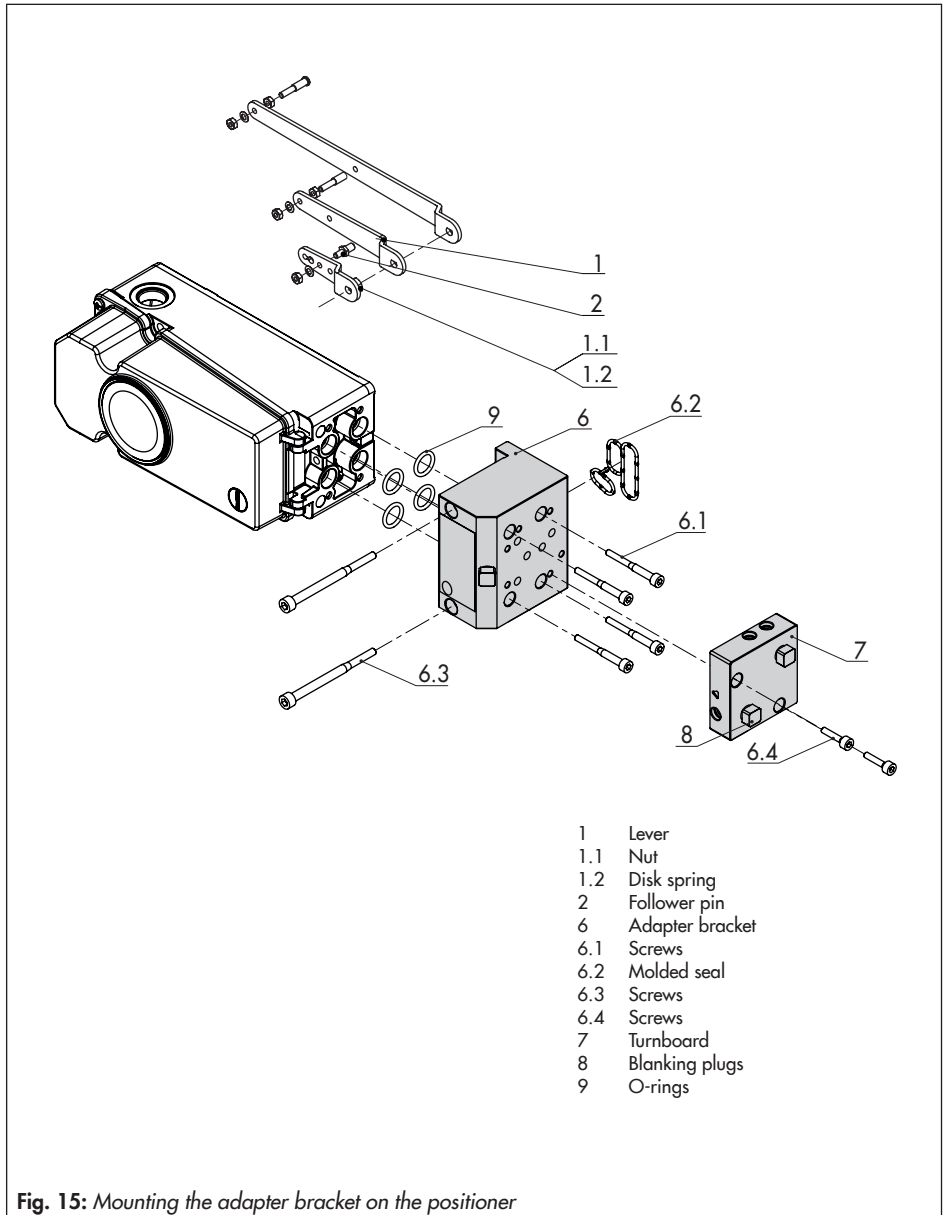

Fig. 15: Mounting the adapter bracket on the positioner
10. Place positioner in such a manner that the follower pin (2) rests on the top of the follower clamp (3). The lever (1) must rest on the follower clamp with spring force.
11. Fasten the positioner to the adapter block (13) using the two fastening screws (6.3). Make sure the molded seal (6.2) is properly seated (see Fig. 15).
12. Mount cover (11) on the other side.